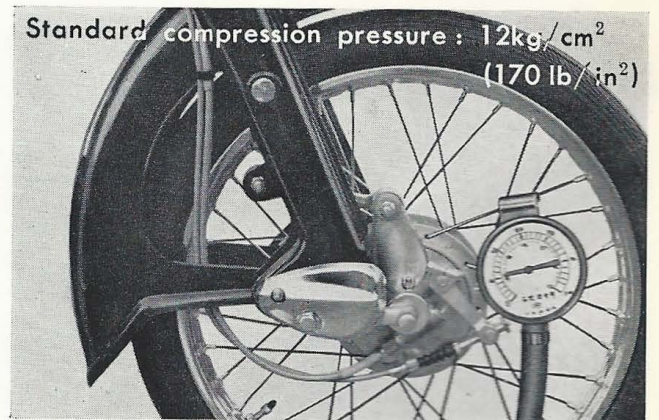

Figure 6-2. Standard compression pressure
- ① Make sure that the throttle and choke are fully opened, or else, a lower pressure indication will be registered on the compression gauge.
- ② The cylinder compression pressure indication will gradually increase with each kick, therefore, continue kicking until the pressure stabilizes at the highest point.
- ③ To obtain a true cylinder pressure indication, the measurement should be made after the engine attains operating temperature.
- ④ Check for the proper operation of the valves.
- ⑤ Make sure that the compression gauge is firmly fitted in the spark plug hole.
- d. The standard specified cylinder compression pressure is $12\text{kg}/\text{cm}^2$ ($172\text{ lb}/\text{in}^2$). (Fig. 6-2)